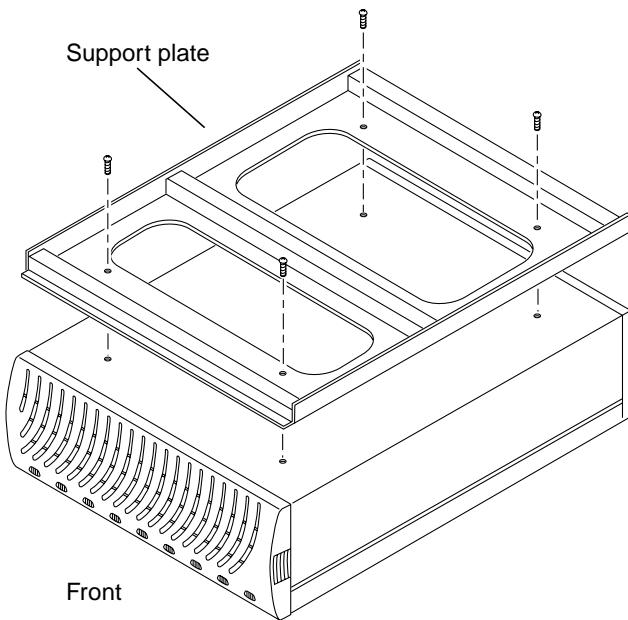

FIGURE 2 Attaching the Support Plate to the Array
3. Secure the support plate to the array using four screws (part number 240-3768-01) provided in the rackmount kit (FIGURE 2).